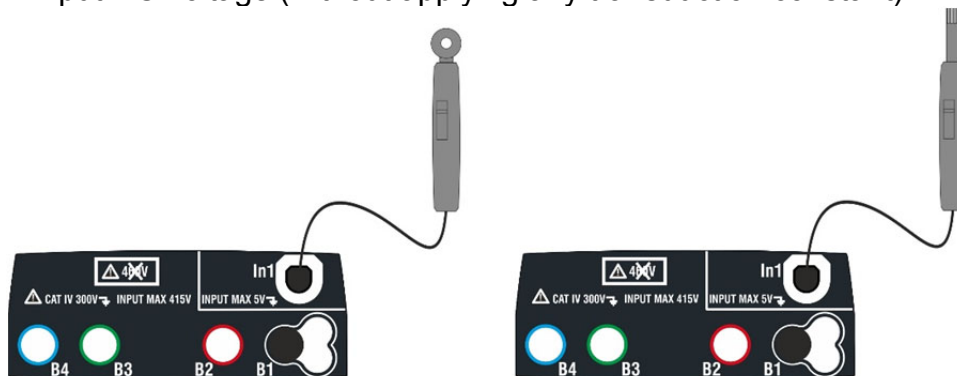

Fig. 33: Measurement of environmental parameters through external probes
4. Insert in the auxiliary **In1** input the transducer necessary for the desired measurement as shown in Fig. 33